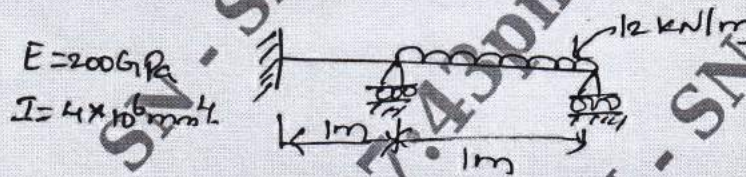

Fig.Q9
- 9 For beam element shown in Fig.Q9, determine deflection (vertical and slope) also find deflection at centre of the portion of beam carrying UDL.